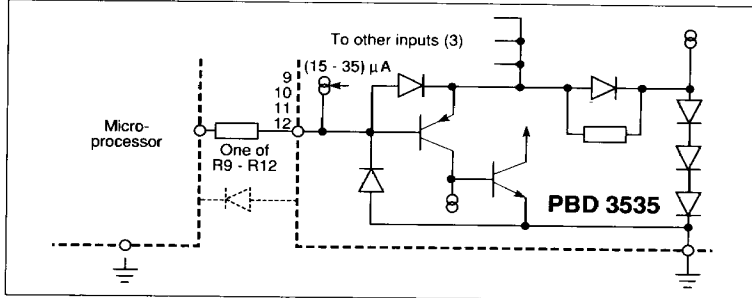

Figure 14. High frequency group resistors to microprocessor.
- When the input level is high, limit the current. Too high current will interfere with the functions of the other three inputs (the resistors can be exchanged with diodes as shown in figure 14).
Example: The logic states vary from 0 V to +3 V. Suitable resistor value is 27 kohm (see fig 14).